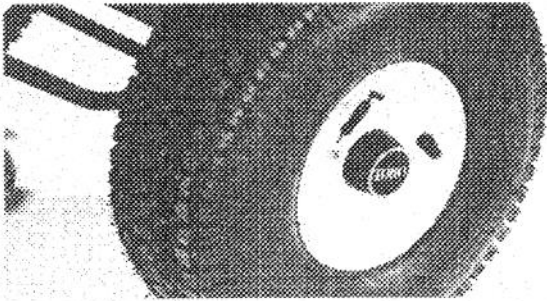

Figure 14
3. Lubricate both front wheels w/No. 2 general purpose grease (Fig. 14). Pump grease gun about four times. Wipe up any excess grease.